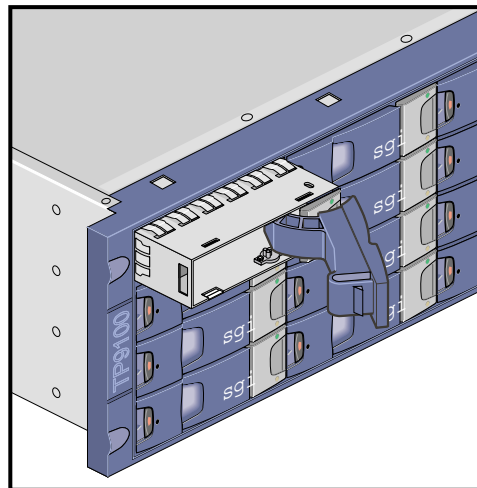

Figure 6-3 Inserting the Disk Drive Module in a Rackmount Enclosure
5. Orient the module so that the hinge of the handle is on the right. Then slide the disk carrier module into the chassis until it is stopped by the camming lever on the right of the module (see Figure 6-3).